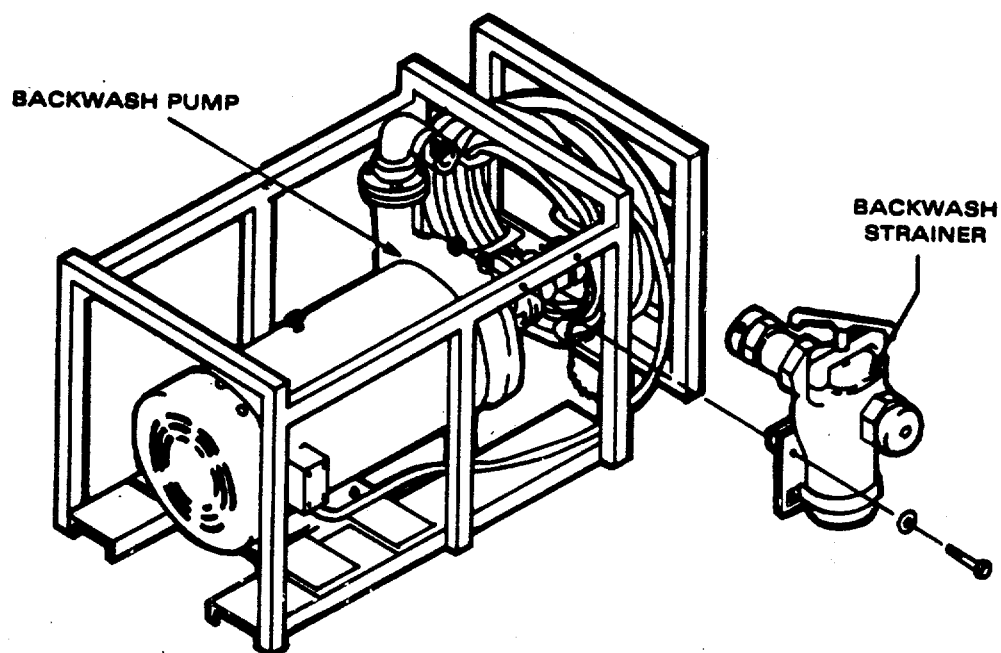

Figure 2-33. Backwash Pump and Strainer
- q. Install the backwash strainer onto the backwash pump frame (fig. 2-33).
- (1) Remove straps securing strainer to backwash pump.
- (2) Remove the two mounting bolts, nuts, and washers from the backwash strainer bracket.
- (3) Remove caps from strainer and pump outlets.
- (4) Attach strainer inlet connection to swivel connector on backwash pump.
- (5) Place backwash strainer bracket against the frame and line up the holes.
- (6) Insert two bolts into mounting holes, placing washers and nuts as required.
- (7) Tighten all connections.